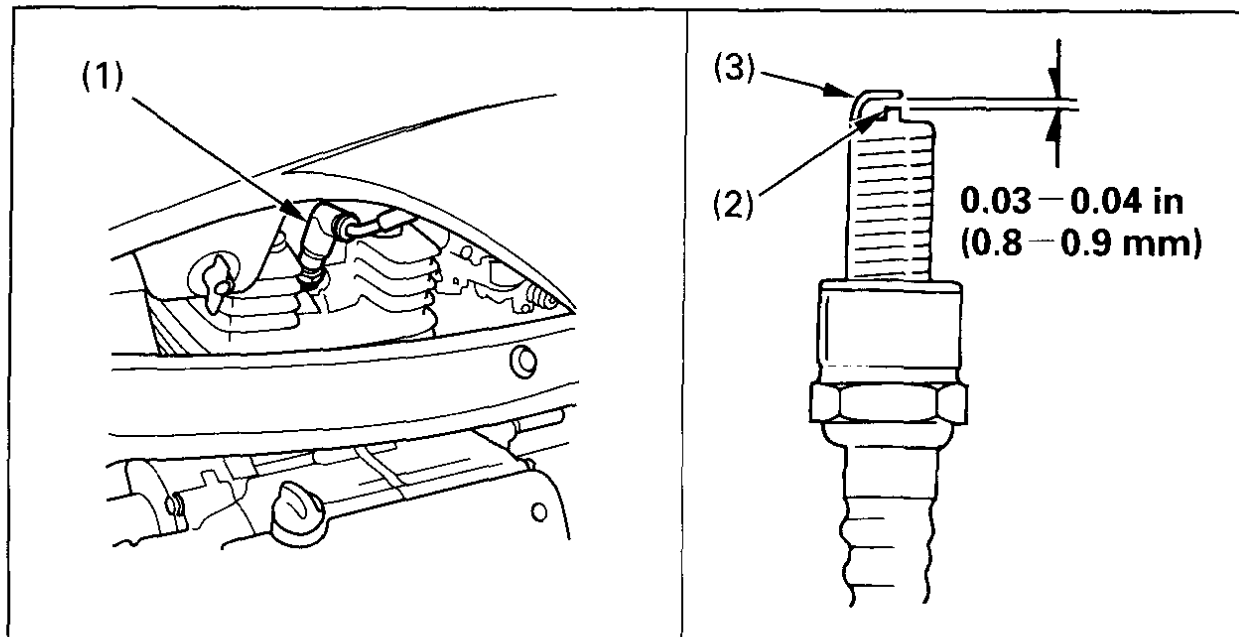

Fig. 4-15 (1) Spark plug cap
4. Visually inspect the spark plug electrodes for wear. The center electrode (Fig. 4-15) should have a flat tip and sharp edges, and the side electrode (3) should not be eroded. If the electrodes and insulator tip appear unusually fouled or burned, we suggest that you contact your authorized Honda dealer.